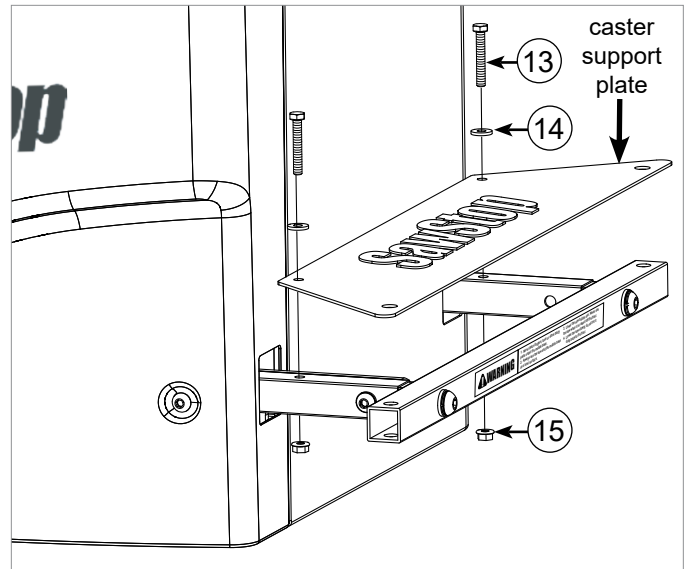

Fig. 17
17. Position the caster support plate on the top of the caster support arms so that the mounting holes align as shown in Fig. 17. Make sure that the SawStop logo faces up. Secure the support plate to the caster support arms with two M6 x 40 hex bolts, two M6 x 16 washers, and two M6 flange lock nuts. Fully tighten the two bolts using a 10 mm wrench and a 10 mm socket.